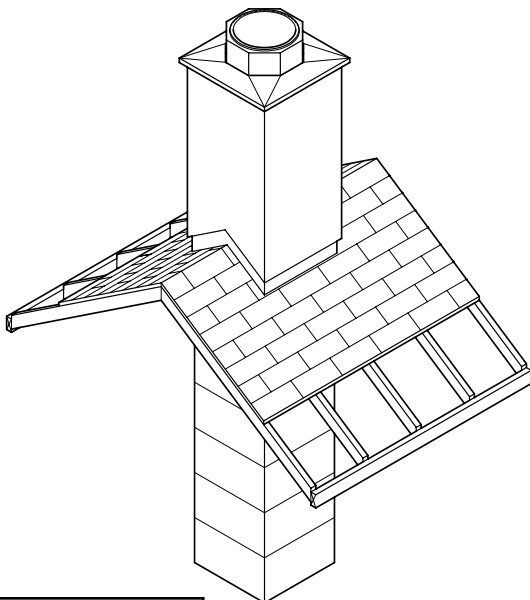

FIGURE 112
- (3) In all cases, the chimney cannot be less than 3’ above the roof at the edge of the chimney (Figure 112 & 113).